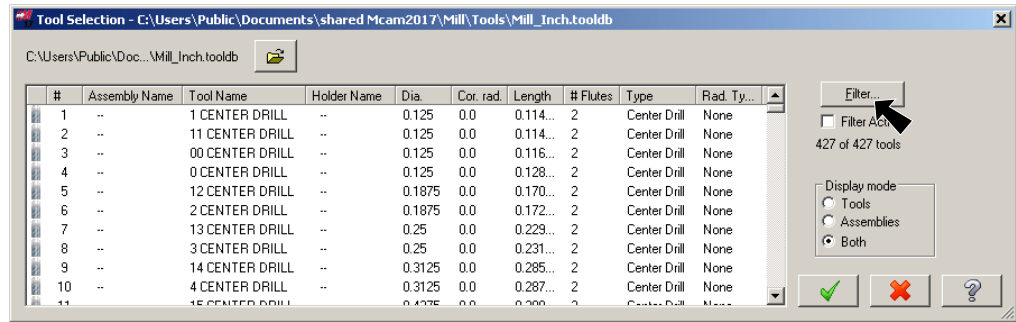

Fig. 39
Step 11. Click **Filter** in Tool Selection dialog box, **Fig. 39**.